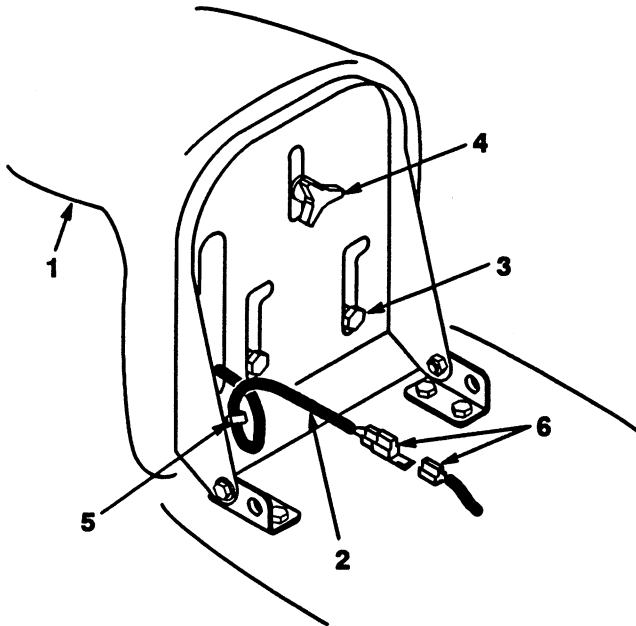

Figure 3
1. Insert seat switch wire cable through the hole in the seat base (Fig. 3).
2. Position the seat onto the seat base by inserting the two shoulder bolts through key hole openings at the end of both slots (Fig. 3).
3. Thread the knob and flat washer into the rear center hole in the seat (Fig. 3). Adjust the seat and tighten the knob.
4. Push the seat switch connector fully into the wire harness connector (Fig. 3).
- Secure the seat switch wire cable to seat base with wire clip (Fig. 3).